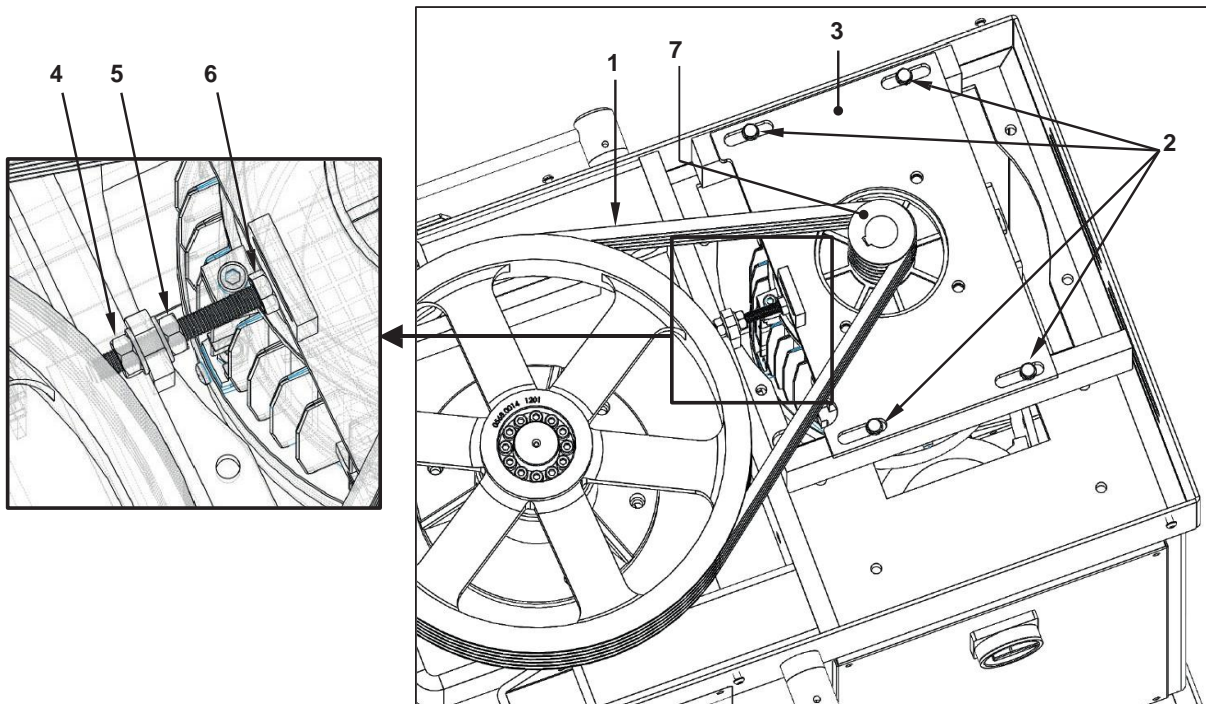

Figure 14 - Tensioning adjustment of the drive belts for spiral arm motion (MSP JET/T)
With reference to Figure 14, **to adjust tensioning of the belts** ref. 1:
- loosen the four screws ref. 2, to allow sliding of the plate ref. 3
- with a hexagonal opening wrench, loosen the locking nuts ref. 4 and 5, as necessary
- with a hexagonal opening wrench, turn the nut ref. 6; by doing so, the plate ref. 3 moves on which the motor is fastened with the pulley ref. 7, thereby modifying tensioning of the belts ref. 1
- having concluded adjustment, tighten the screws ref. 2 and the locking nuts ref. 4 and ref. 5
- loosen the belts ref. 1 as described above